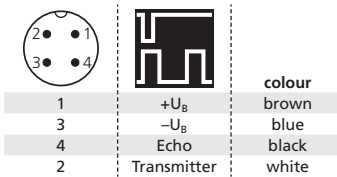

Fig. 1: Pin assignment with view onto the sensor plug and colour code of the connection cable
- Connect the sensor to your own control and signal evaluation equipment according to Fig. 1.